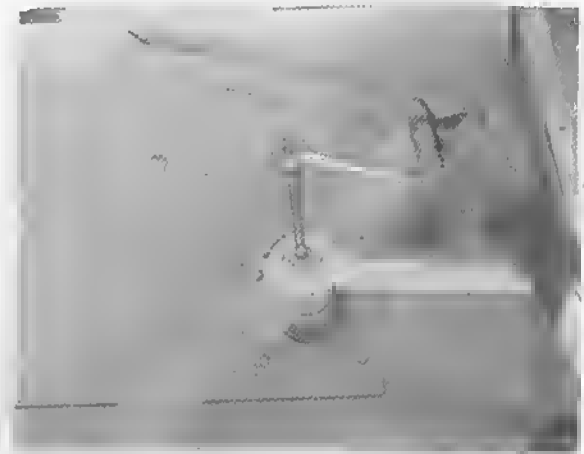
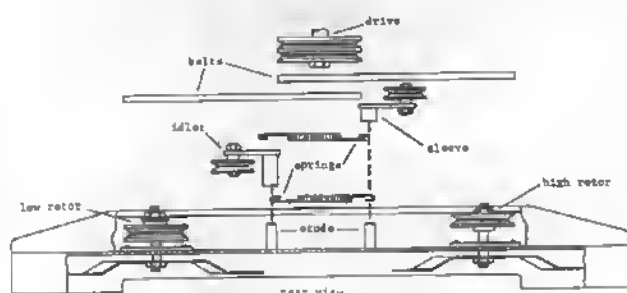

fig 9
fig 2
3. BLADE REMOVAL: STOP the engine, Put the PTO in the OUT position. Put the operating levers in NEUTRAL. BE SURE the blades have stopped. Remove the mower from the tractor. Turn the mower upside down. Hold the rotor shaft with a 3/8" socket drive and remove the nut with a 15367E1 Gravelly Wrench or equivalent, fig 9. Do not use the top spindle nut to hold the spindle from turning.
3. Mount the idlers on the studs as in fig 2. Note the different sleeve lengths of the idlers. The short sleeve goes next to the high rotor and the tall sleeve goes next to the low rotor. Set the idlers on the studs with the extended sleeves down. Work from the rear of the mower.
5. Hook the springs to the idler assembly from underneath as in figs 2 & 4, solid lines.
7. **BELT REMOVAL:** Remove the belt covers. Unhook one end of each spring; use a spring puller or clamp-lock pliers. Remove the drive. Remove the belts. See figs 2, 3, & 4. fig 1, Item 14 and 15. Hold the rotor shaft with a 3/8" socket drive and torque the nut to 100 ft. lbs. Similar tightness can be reached with a Gravelly 11367E1 Wrench or any 16" length handle wrench when used by an average man, fig 9.